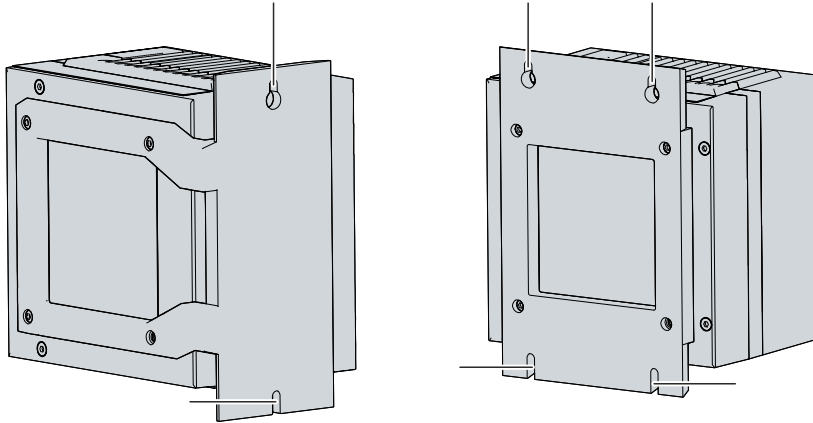

Fig. 22: Mounting plates for control cabinet installation
2. Hang the PC on the screws at the marked points of the mounting plate (see Fig. 22).